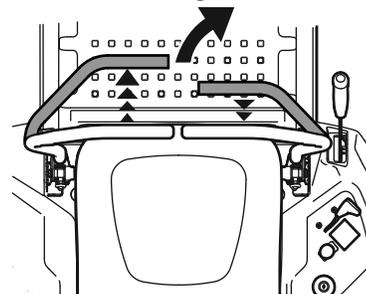

Figure 22
2. To turn to the right, move the right drive control lever rearward of the left lever. See Figure 22.